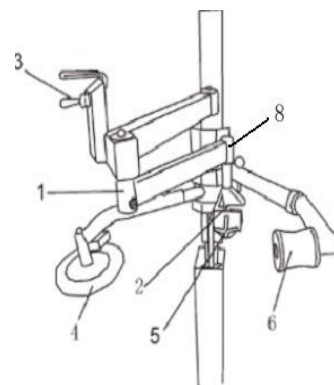
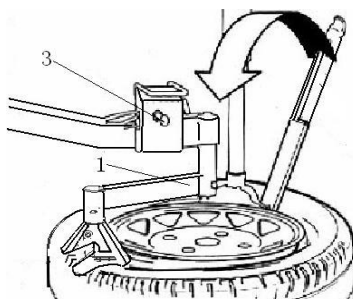

Fig 11
Fig 16
- 4) Install the tire pressing rotating arm 1, tire pressing head(upper) 2, rise-fall switch handle 3, tire lifting roller 4, tire pressing head(bottom) 5, tire pressing roller 6, tire pressing arm 8 separately on the help arm.(Fig 11)
Fig 11 shows functional parts of the 037B device:
The rise-fall switch handle (3, **Fig 11**) is to adjust the tire pressing rotating arm (1, **Fig 11**) when mounting and demounting tires.
1) Lift the rise-fall switch handle(3, **Fig 11**) up, the tire pressing rotating arm (1, **Fig 11**) should rise. Down the rise-fall switch handle (3, **Fig 11**), the tire pressing rotating arm (1, **Fig 11**) should lower.
3) Operate the rise-fall switch handle (3, **Fig 11**) to adjust the tire pressing roller (6, **Fig 11**), make it get touch with the tire's arc to facilitate the mounting and demounting operations.
- c- Raise the auxiliary arm, mount the tire pressing head (upper) on the tire pressing arm (8 Fig 11) and rotate it to the opposite side of the mounting head. Press the tire with the switch handle to create enough space; hang the bead on the demount/mount head with the help of the lifting lever (Fig.16).